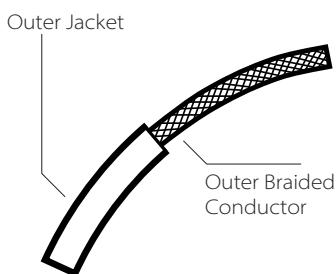

Fig. 1
- a. The Power Supply (D) must be installed in a remote and accessible location near the fixture in accordance with local electrical code. (Fig 1)
- b. Connect the Power Supply's (D) live wire to the live supply wire.
- c. Connect the Power Supply's (D) neutral wire to the neutral supply wire.
- d. Connect the Power Supply's (D) positive (+) output wire to the necessary length of red wire (not included) to reach the fixture (J) location.
- e. Connect the Power Supply's (D) negative (-) output wire to the necessary length of black wire (not included) to reach the fixture location.
- f. Drill a small hole in the ceiling behind the fixture (J) and pull the low voltage wires through the hole
- g. Feed red length (+) and black length (-) of wire through hole in mounting plate (G). Secure mounting plate to ceiling using wood screws (F)
1. Make a 1" slice along the length of the cord's outer jacket (Fig. 1).
2. Carefully strip the outer jacket of the cord and keep the outer braided conductors intact (Fig. 1).